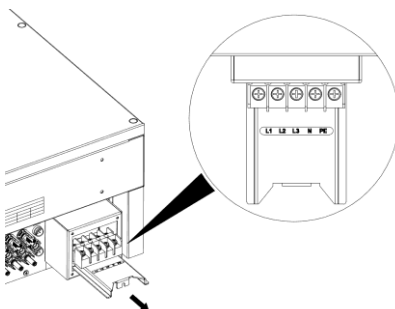

Figure 4.19 Pull out the rail
(4) Pull out the AC terminal rail as shown in Figure 4.19.